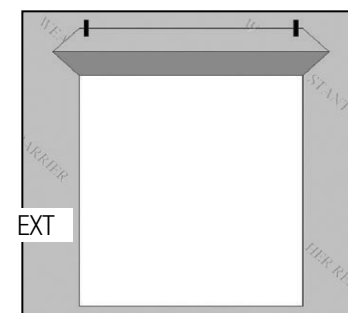

FIG. 4
- H) From the exterior, cut the top of the WRB as shown to form a flap. (Fig. 4)
- I) Temporarily tape this top flap up. (Fig. 4)